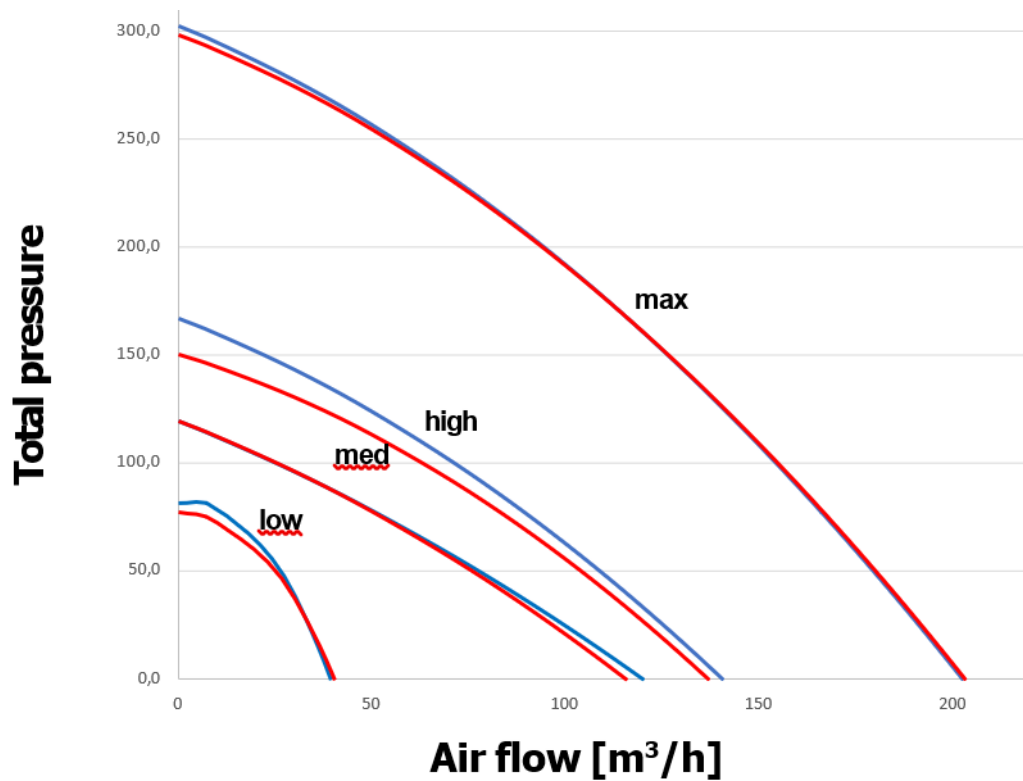

Figure 10. Total pressure for HRU-FlatAIR-150
- HRU-FlatAIR-150-H 150  $\text{m}^3/\text{h}$  (at 100 Pa) [Fig. 10]